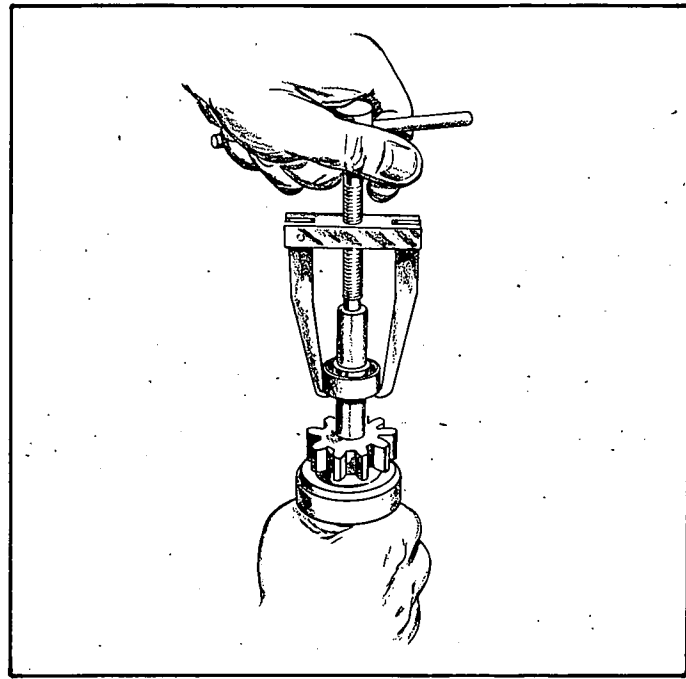

FIGURE 32. MOUNTING OVERRUNNING CLUTCH
3. To mount the overrunning clutch; first insert the pinion stopper into the armature shaft, then apply the ring to the groove of the shaft rigidly. For the insertion of the ring, use a tool as shown in Figure 32 and pull the pinion stopper up.